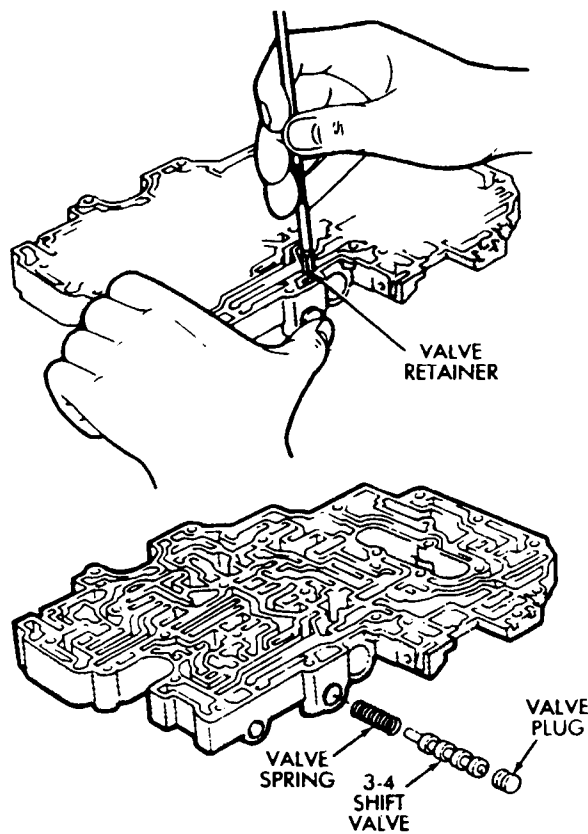

**Fig. 4 Removing/Installing Throttle Valve**
- (4) Remove throttle valve pin with magnet and remove downshift plug, valve spring and throttle valve (Fig. 4).